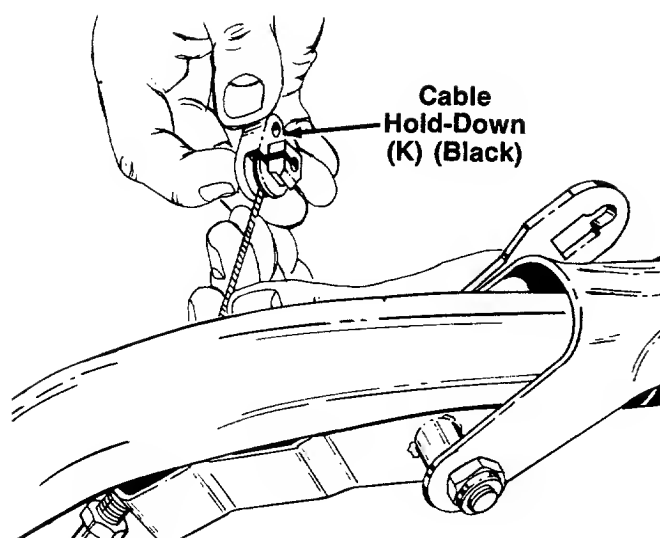

FIGURE 9.
- b. Hook the barrel end of the cable into the left hand cable hold-down (K) (black). Slide the cable around in the slot as shown in figure 9.